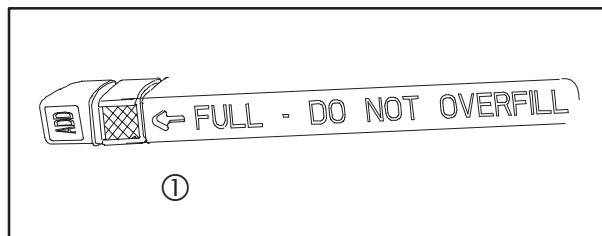

Fig. 2
BE SURE OIL LEVEL IS PROPERLY MAINTAINED. Always fill to dipstick FULL mark (1), Fig. 2.